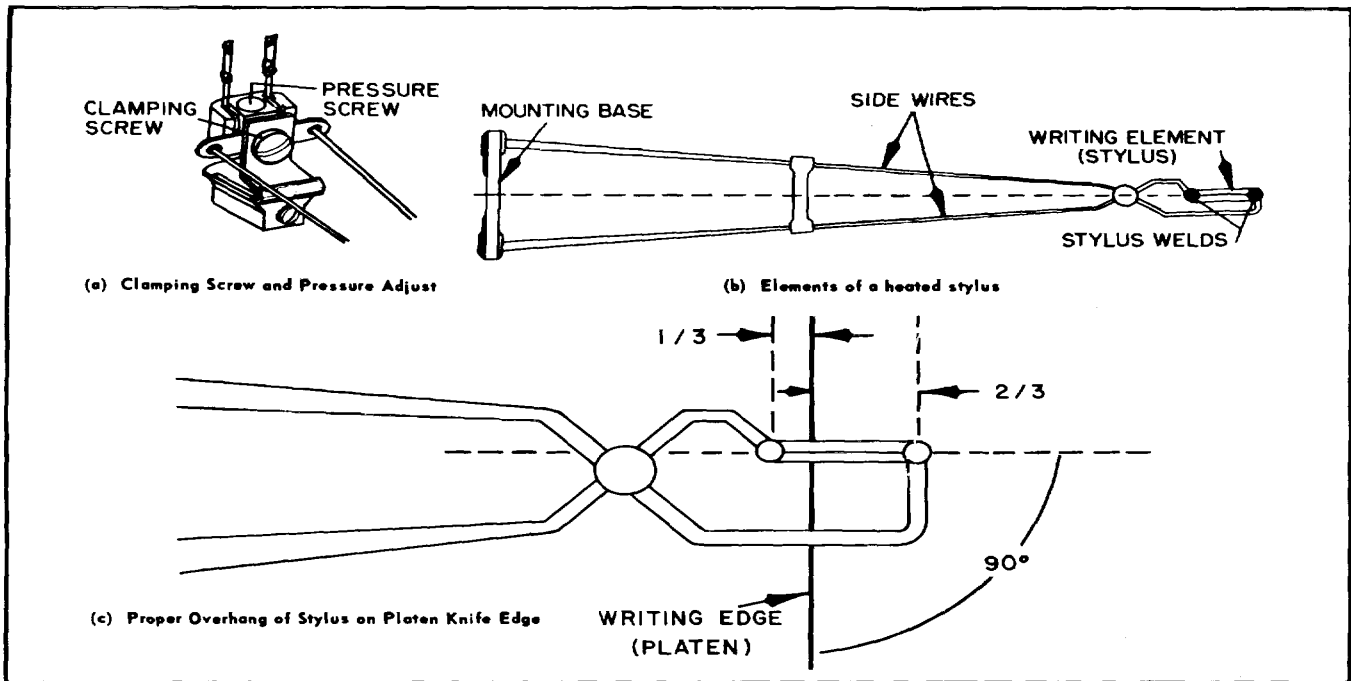

Figure 5-10. Heated Stylus Part No. 398
b. Loosen the setscrew at the bottom of the stylus adapter slightly (Figure 5-10) with a spline wrench.
c. In remounting the replacement magnet, adjust the position of the magnet using the screw at the rear of the mounting plate (Reference 33, Figure 6, IPB Section) to obtain the correct stylus overhang. See Figure 5-10(c).